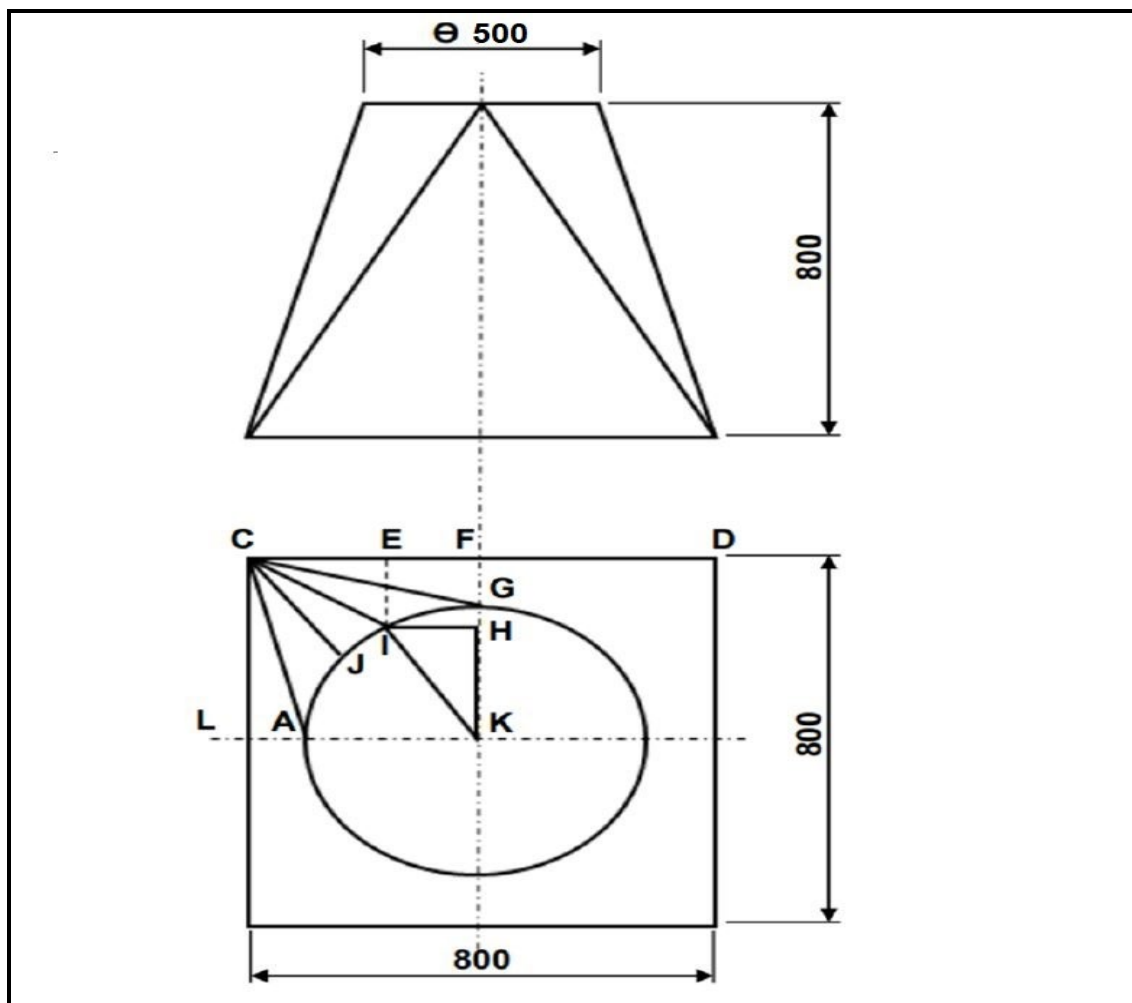

FIGURE 11.1
11.3 FIGURE 11.1 below shows a square-to-round transition piece. In order to develop the transition, the true lengths must be calculated.